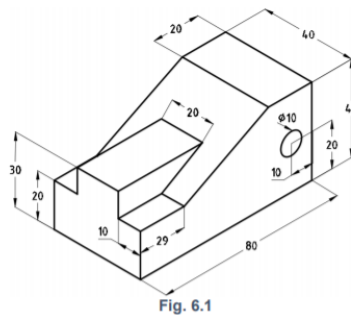

Fig. 6.1
1. Create a CSG model for an extruded component as shown in Fig. 6.1: Viewing in various modes (generate multi-view, print .pdf).